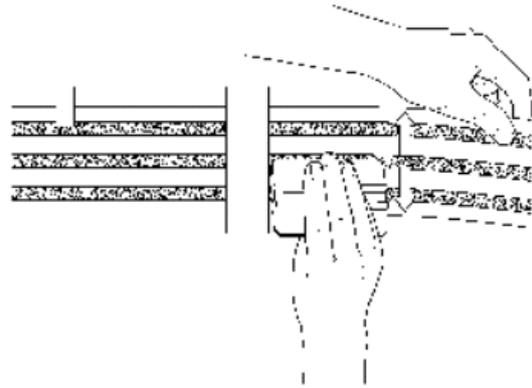

Figure 16. Make a Centre Hinge for Striping
1. Use the **Centre Hinge Method**, page 7. Make the hinge perpendicular to the long dimension of the stripe. See Figure 16.